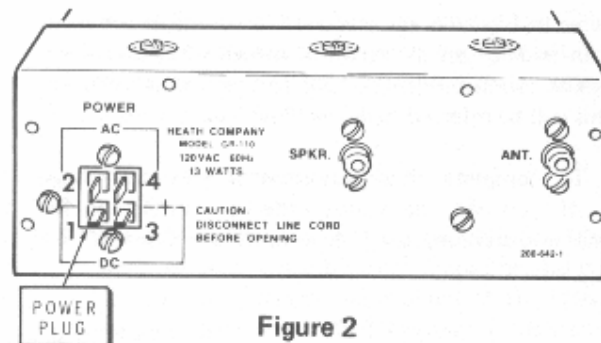

Figure 2
- () Refer to Figure 2 and place the positive ohmmeter probe on lug 3 of the power plug. This reading should be greater than 50 Ω .